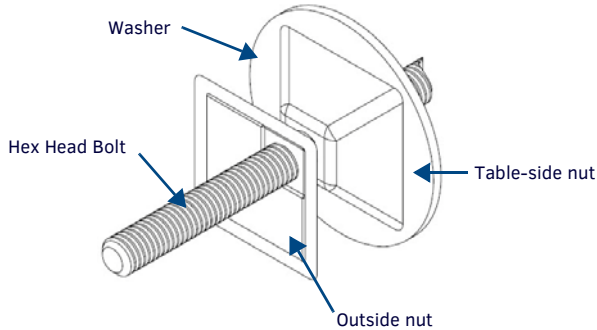

FIG. 6 TAMPER-RESISTANT NUT INSTALLATION, DETAIL
- On the underside of the table, put a washer and then one of the tamper-proof nuts on the end of each hex head bolt (FIG. 6).
- With the wide side facing away from the table surface, put the spare tamper-proof nut on the end of one of the bolts and finger-tighten the nut (FIG. 6).